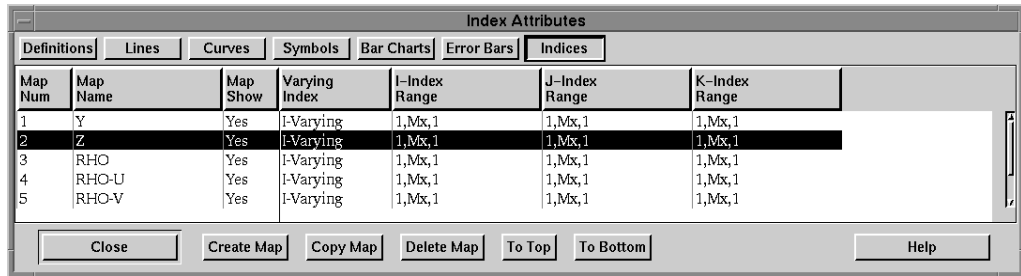

Figure 8-31. The Index Attributes dialog.
1. From the XY menu, choose Index Attributes. The Index Attributes dialog appears, as shown in Figure 8-31.